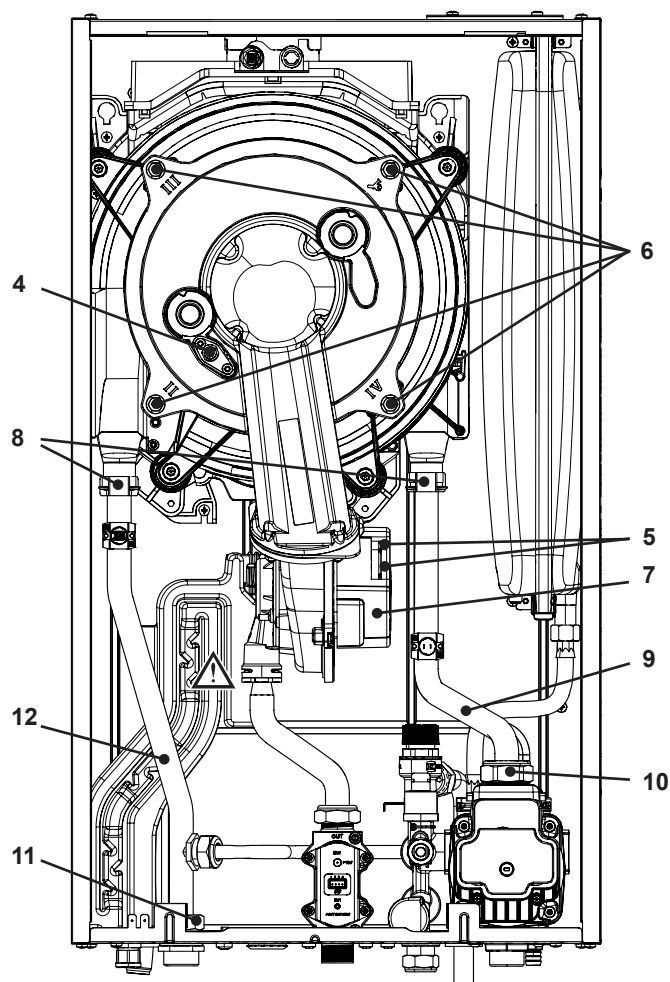

Figure 5.2
- 4 Disconnect the fan connector "5" by pressing the plastic hook placed on the side of the connector (Figure 5.2).
- 5 Unscrew the nuts "6" (Figure 5.2).
- 8 Remove the clips "8" (Figure 5.2).
- 9 Loosen the connection "10" and slightly move the pipe "9" upwards, turn it towards left (Figure 5.2) and then move the pipe downwards freeing it from the Condensing heat exchanger.
- 10 Loosen the connection "11" and slightly move the pipe "12" upwards, turn it towards left (Figure 5.2) and then move the pipe downwards freeing it from the Condensing heat exchanger.
Ensure to tighten the nuts "6" - Figure 5.2 firmly.